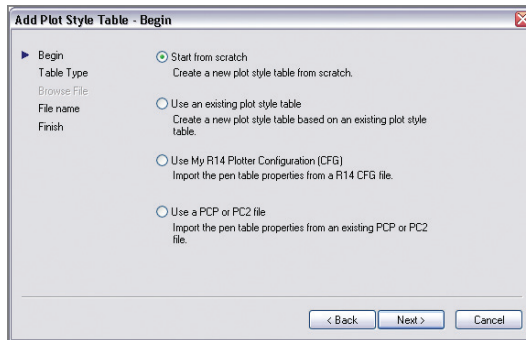

FIGURE 14.8 Starting a plot style table from scratch
3. Select Start From Scratch on the next page (see Figure 14.8). Click Next.